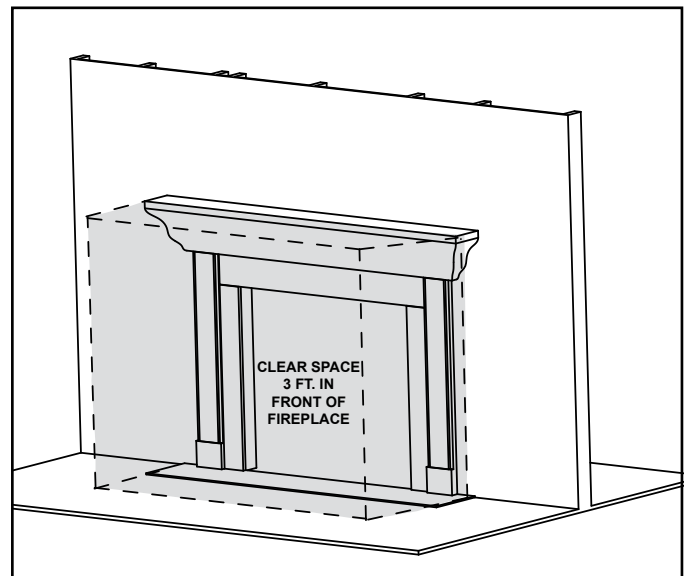

Figure 3.1 Clear Space Requirement
**WARNING! DO NOT place combustible objects in front of the fireplace or block louvers. High temperatures may start a fire. See Figure 3.1.**